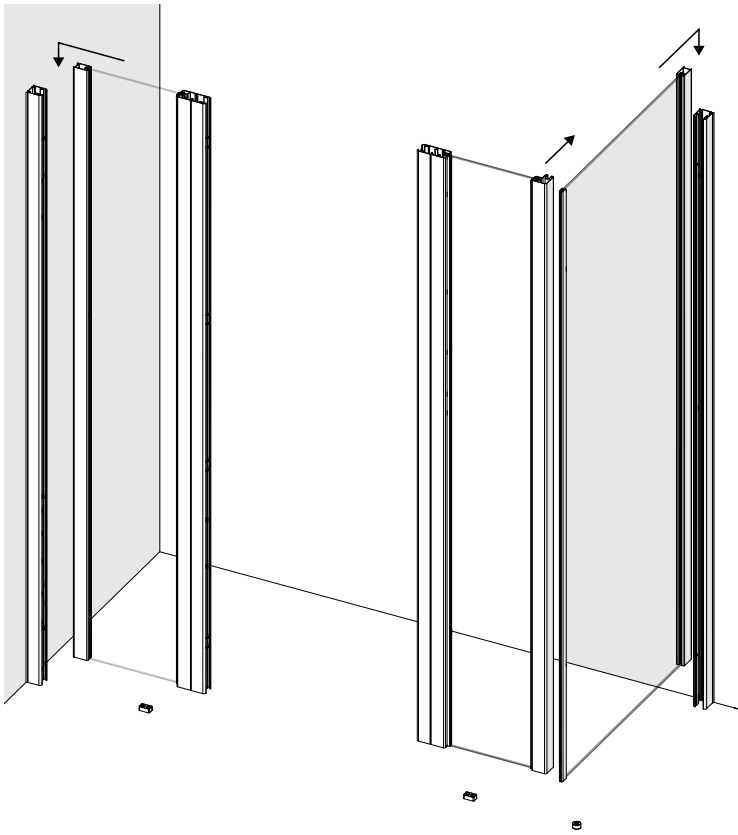

Fig. 4.2
- IV. Put the panel(s) into the wall comp(s) and lower onto the locating block(s). *Figure 4.2*